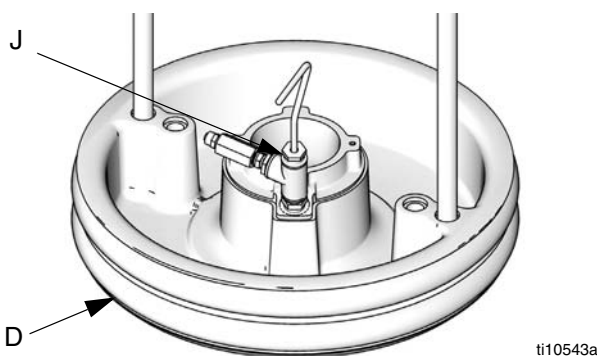

FIG. 9
5. Once ram is fully extended, apply a thin coating of compatible lubricant to the ram plate drum seals (D), FIG. 9.
8. Remove bleed stick from platen bleed port (J).